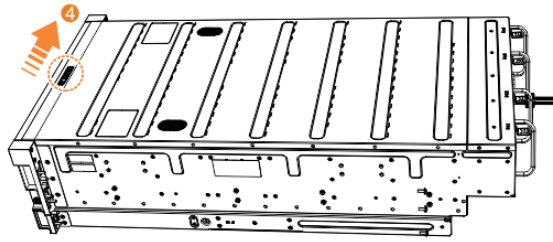

Figure 100. Locking the top cover
10. Lock the cover into position by sliding the release lever 4, as shown in Figure 100 on page 161